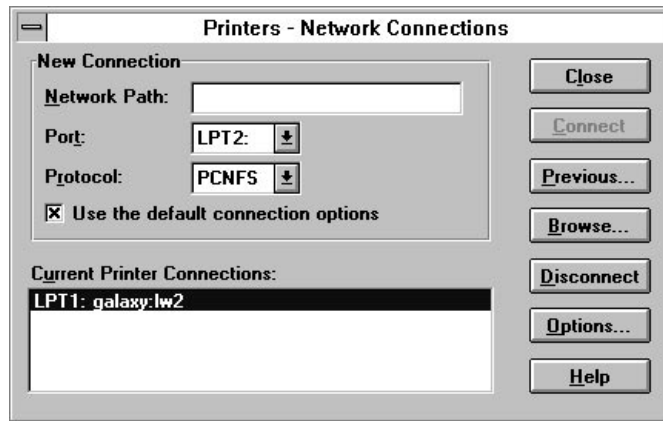

Figure 5-17 Printers - Network Connections Dialog Box
- Network accesses the network drive so you can connect to a printer on the network. It activates the Printers - Network Connections dialog box, shown in Figure 5-17. Consult the Microsoft Windows documentation or click on the Help button for an explanation of the fields on this dialog box. The Network option is only available if you are running Windows for Workgroups.